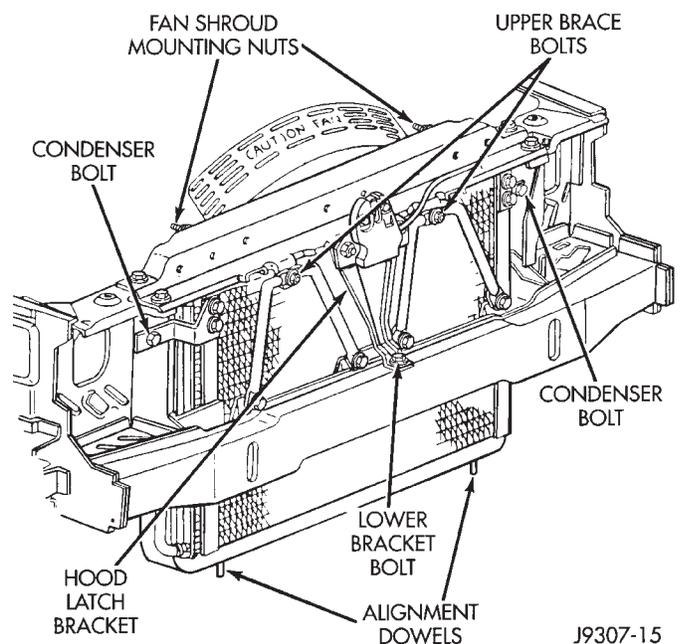
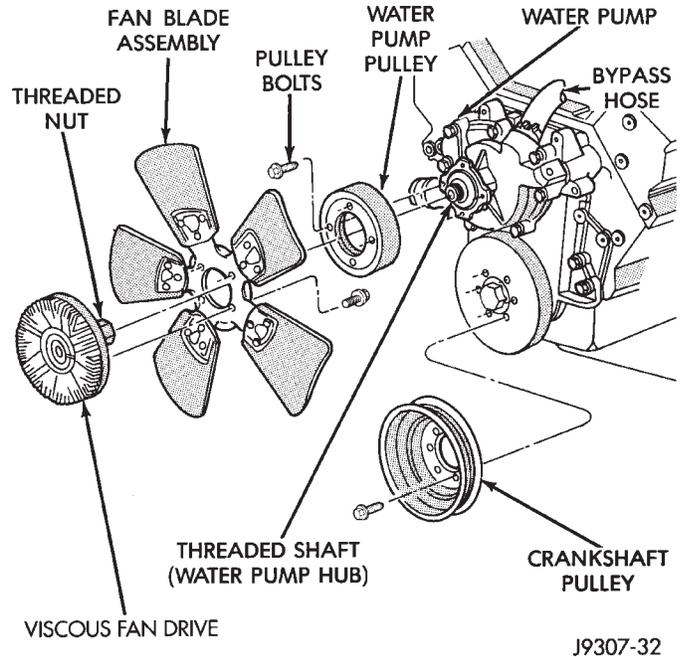

Fig. 69 Fan Shroud Mounting Nuts
Fig. 70 Fan Blade/Viscous Fan Drive—5.2/5.9LV-8 Engines
(2) Remove the two fan shroud-to-upper radiator crossmember mounting nuts (Fig. 69).
(1) Disconnect negative battery cable from battery.
(2) The thermal viscous fan drive/fan blade assembly is attached (threaded) to water pump hub shaft (Fig. 70). Remove fan blade/viscous fan drive assembly from water pump by turning mounting nut counterclockwise as viewed from front. Threads on viscous fan drive are **RIGHT HAND**. A Snap-On 36 MM Fan Wrench (number SP346 from Snap-On Cummins Diesel Tool Set number 2017DSP) can be used. Place a bar or screwdriver between water pump pulley bolts to prevent pulley from rotating.
(3) Do not attempt to remove fan/viscous fan drive assembly from vehicle at this time.
(4) Do not unbolt fan blade assembly from viscous fan drive at this time.
(5) Remove two fan shroud-to-upper crossmember nuts (Fig. 69).
(6) Remove fan shroud and fan blade/viscous fan drive assembly as a complete unit from vehicle.
(7) After removing fan blade/viscous fan drive assembly, **do not** place viscous fan drive in horizontal position. If stored horizontally, silicone fluid in the viscous fan drive could drain into its bearing assembly and contaminate lubricant.